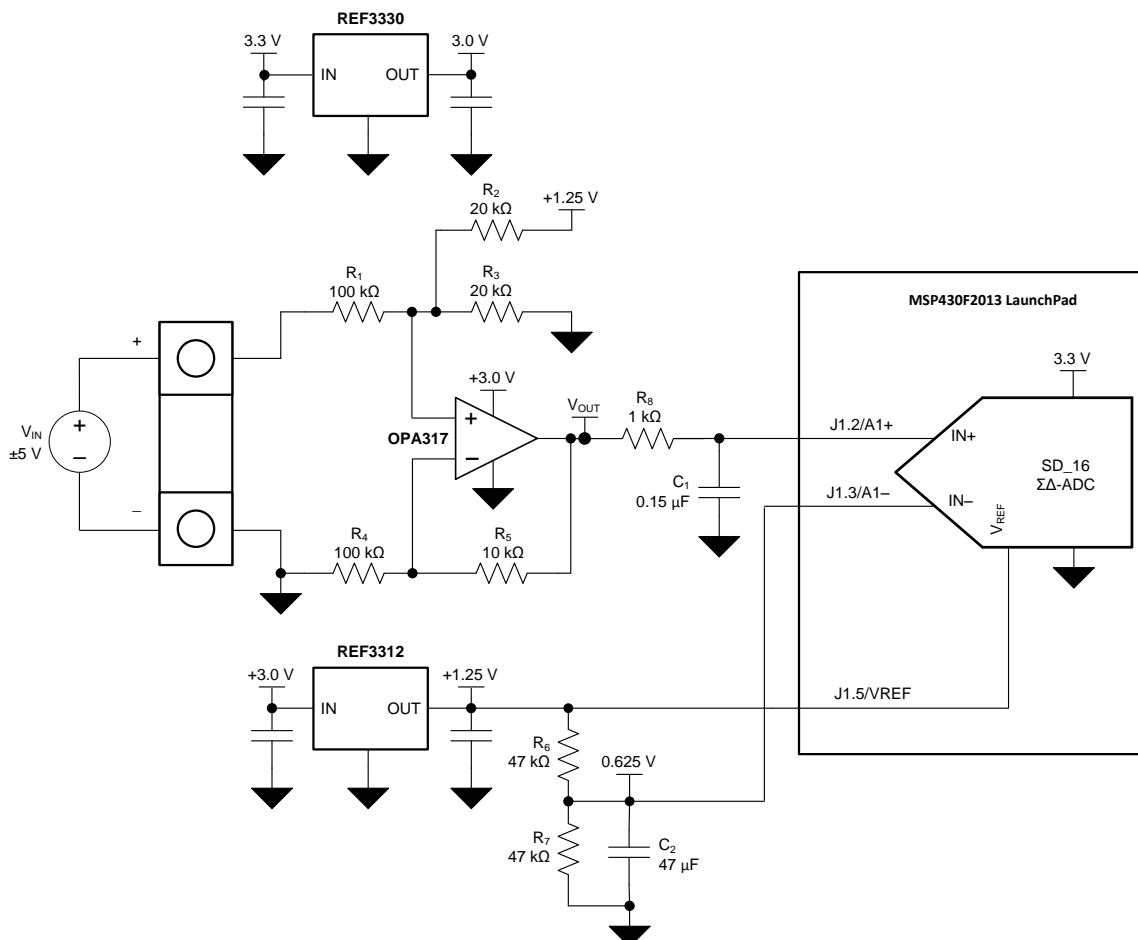

Figure 19. Bipolar Signal-Chain Configuration
The circuit in Figure 19 consists of a low-power reference and conditioning circuit. This circuit attenuates and level-shifts a bipolar input voltage within the proper input range of a single-supply, low-power, 16-bit  $\Delta\Sigma$  analog-to-digital converter (ADC), such as the one inside the MSP430 (or other similar single-supply ADCs). Precision reference circuits are used to level-shift the input signal, provide the ADC reference voltage, and create a well-regulated supply voltage for the low-power analog circuitry. A low-power, zero-drift op amp circuit is used to attenuate and level-shift the input signal.
**Figure 19** depicts a simplified schematic for this design showing the MSP430 ADC inputs and full input conditioning circuitry. The ADC is configured for a bipolar measurement where final conversion result is the differential voltage,  $V_{\text{DIFF}}$ , between the positive and negative ADC inputs, A1+ and A1–. The bipolar, ground-referenced input signal must be level-shifted and attenuated by the op amp so that the output is biased to  $V_{\text{REF}} / 2$  and has a differential voltage that is within the  $\pm V_{\text{REF}} / 2$  input range of the ADC. The transfer function for the op-amp circuit simplifies to Equation 4.